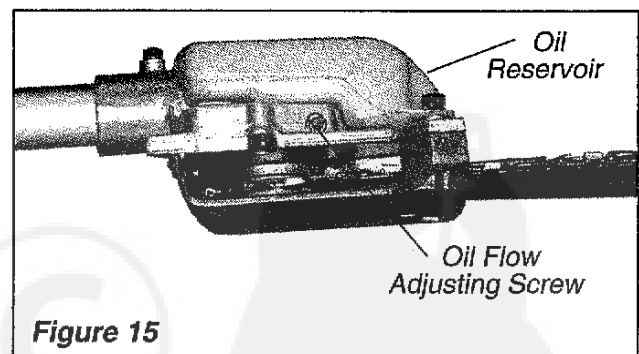

Figure 15
2. Place the unit on its side with the oil reservoir up. See Figure 15.